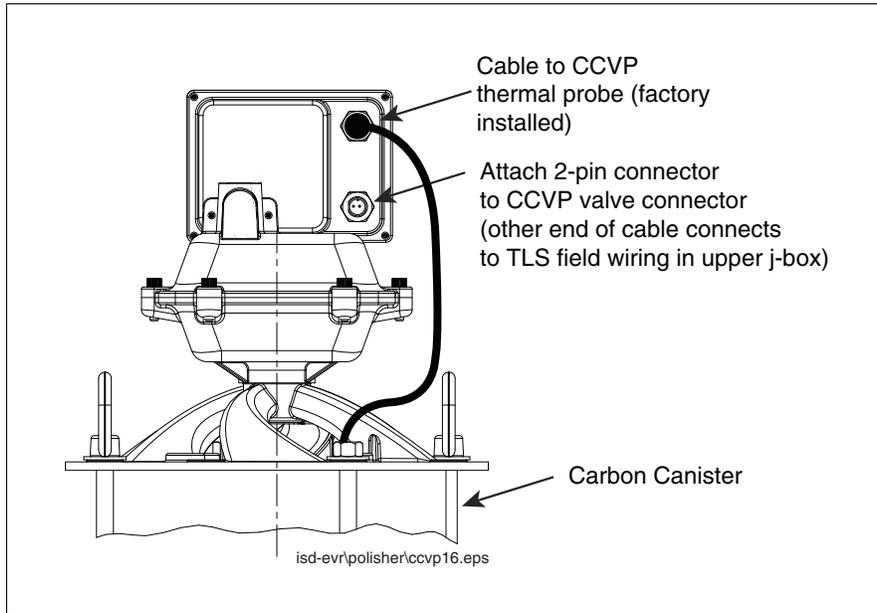

Figure 4. Locating the CCVP vapor valve connector
1. Figure 4 of the TLS-3XX Site Prep Manual, P/N 576013-879, must be consulted for proper installation of the Carbon Canister into hazardous locations with direct wiring.
10. Connect the two-pin connector of the 6-foot cable provided in the installation kit to the CCVP vapor valve, observing plug polarities (see Figure 4). The other end of this cable is passed through a kit supplied cord grip in the upper junction box.